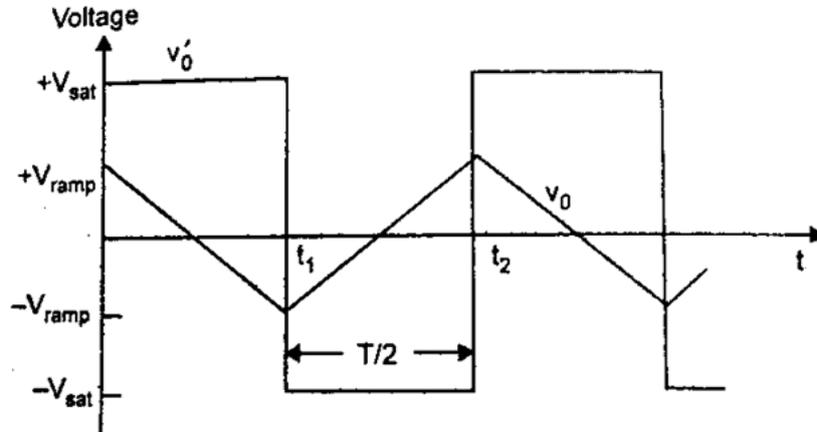

Fig. 3.39 Output Waveforms
- The output of the integrator A₂ will be a negative going ramp as shown in Fig.3.39.